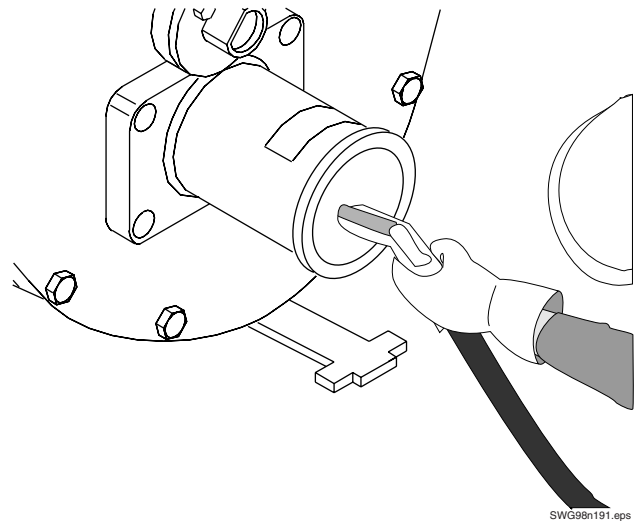

Figure 27
- Spray water into the opening, washing the end of the rubber ram, the material cylinder, the rock valve, and the outlet pipe (Figure 27). Continue washing until the water that leaves the valve is clear and clean. Visually inspect that no rocks, sand, or clumps of concrete remain. If there is still material inside the valve, continue spraying water.